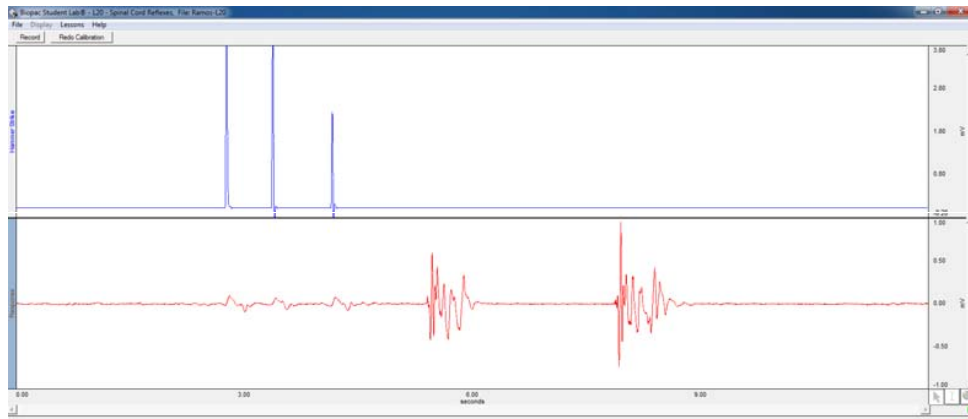

Figure 6: Calibration procedure - final view
6. The calibration procedure will stop automatically after 12 seconds. At the end of the calibration recording, the screen should resemble Fig. 6.
7. If the data resembles Fig. 6, proceed to the Data Recording Session. Otherwise, recheck connections and click Redo Calibration.
7. During the calibration, lightly strike the hammer 2-3 times and flex your muscle of interest. Check to see if the resulting data resembles Fig. 6. If not, recheck connections and repeat.